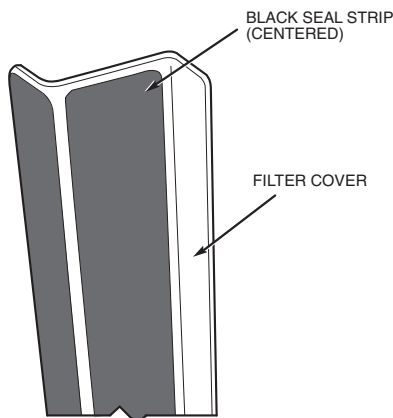

Fig. 37 — Attaching Seal Strip to Filter Cover
13. Attach black seal strip (provided) to filter cover. Seal strip should be applied centered over the holes of the one flange, making sure to fully cover holes and center over the other large flange. See Fig. 37.